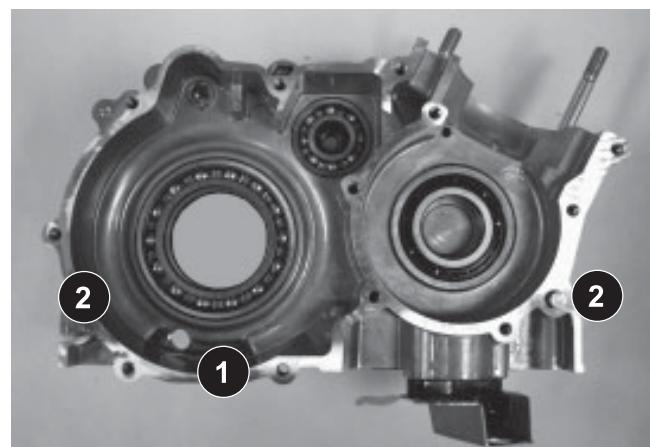

Fig. 40
◆ **Note:** The ignition side housing half (Item 1) has two dowel pins (Item 2), see Fig. 40. Drill corresponding cutouts in the wood or plastic plate to accommodate these.
■ **Attention:** Crankshaft main bearing: The closed cage side faces the crank web, see Figs 40 and 41.